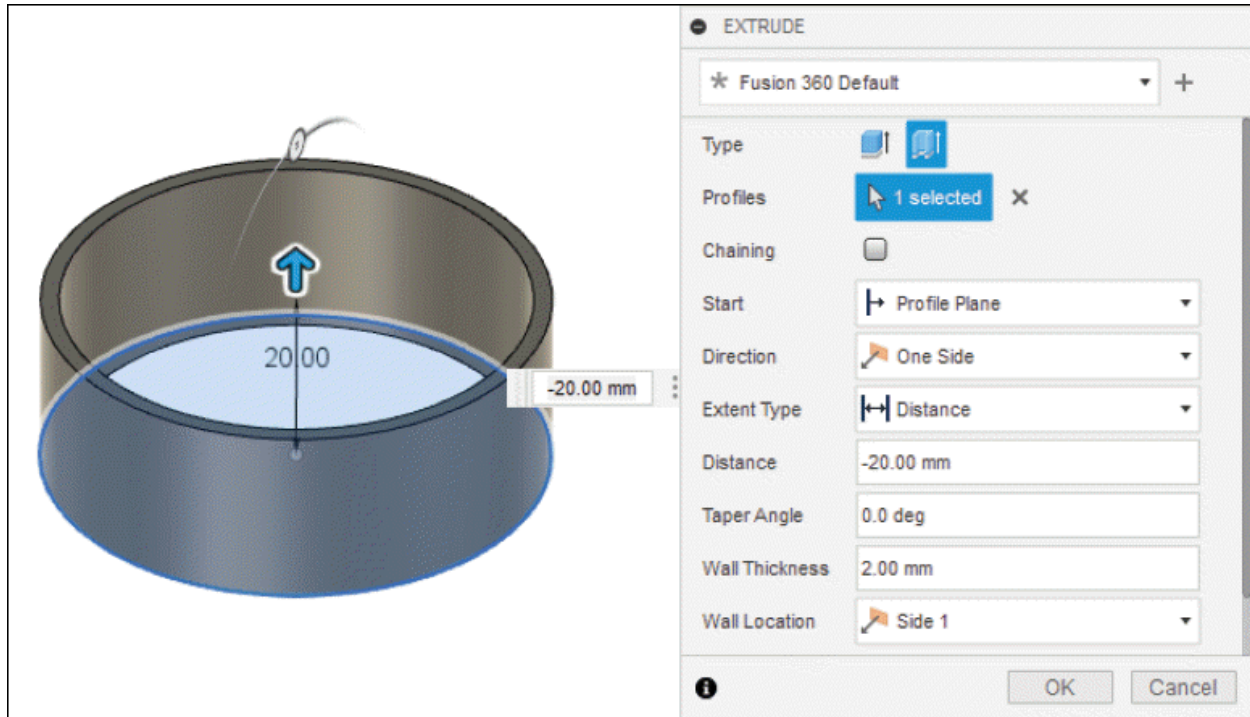

Figure-48. Extrusion inside the profile
- Select **Cut** option if you want to remove material from base body by using current extrude feature; refer to Figure-48.
- Select **Side 1** option from the drop-down if you want to offset/move the extrusion to the one side of the profile; refer to Figure-48.